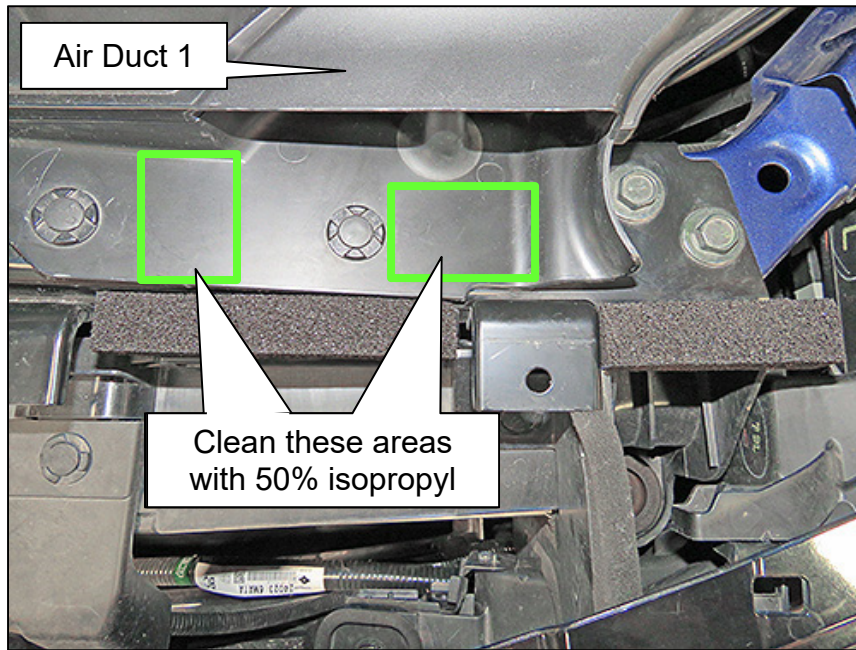

Figure 10
9. Clean the areas of Air Duct 1 shown highlighted in Figure 10 with 50% isopropyl alcohol.